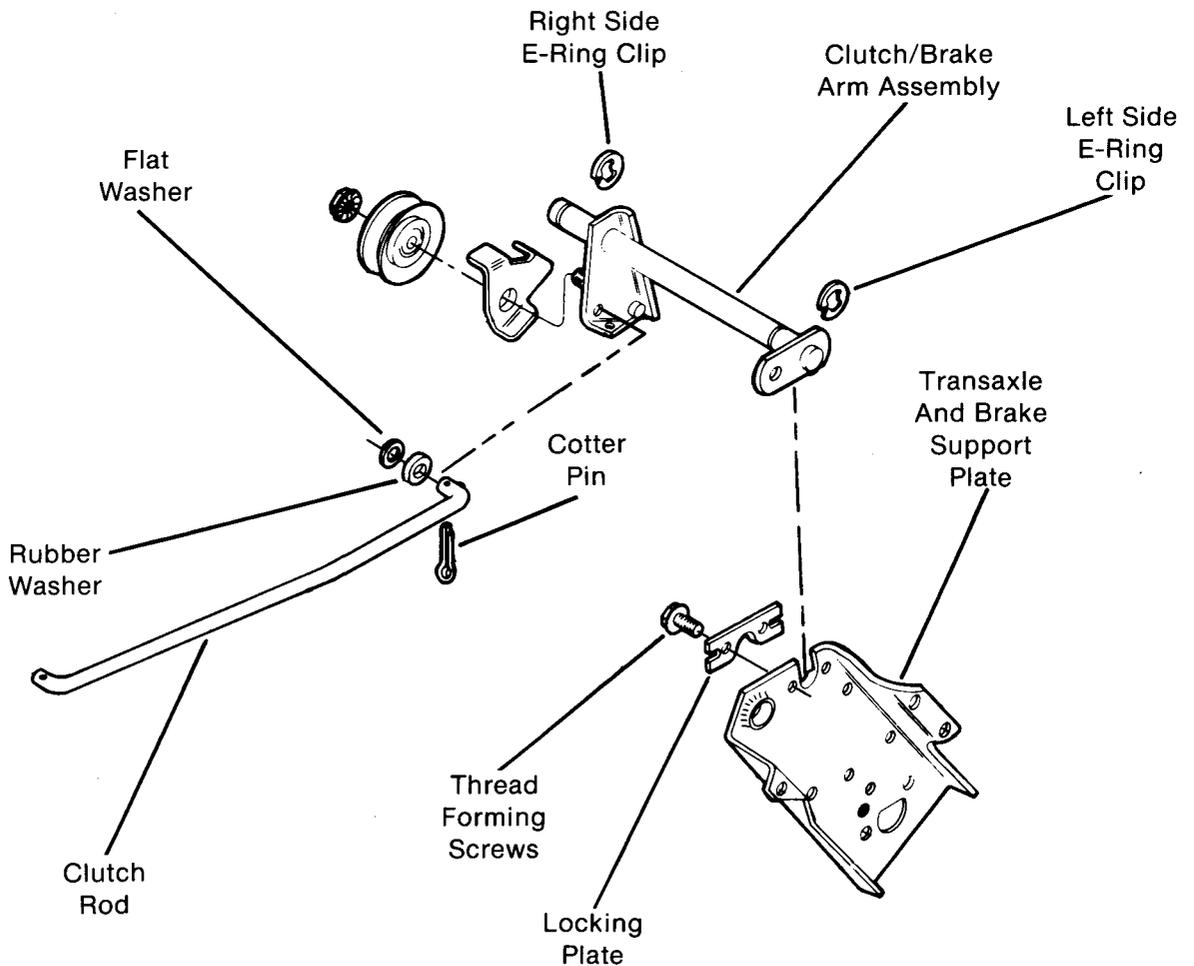

FIG. 58
- E. Remove E-ring clip on left end of clutch/brake arm assembly against transaxle and brake support plate. (Fig. 58)
- F. Remove two thread forming screws attaching locking plate to transaxle and brake support plate. (Fig. 58)
- I. Compress rubber washer and flat washer on rear end of clutch rod and remove cotter pin from clutch/brake arm assembly. (Fig. 58)